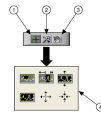

Figure 7.14: 1. Cursor Movement Tool, 2. Zoom Button, 3. Panning Tool, 4. Zoom Pull-down Menu
5. Right-click the **waveform chart** and select **Visible Items**»**Graph Palette** from the shortcut menu to display the graph palette, as shown in Figure 7.14. You can place the graph palette anywhere on the front panel.